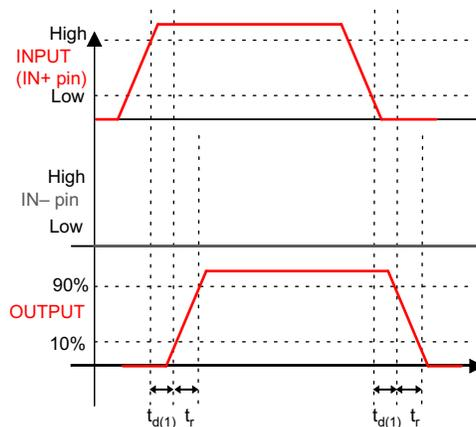
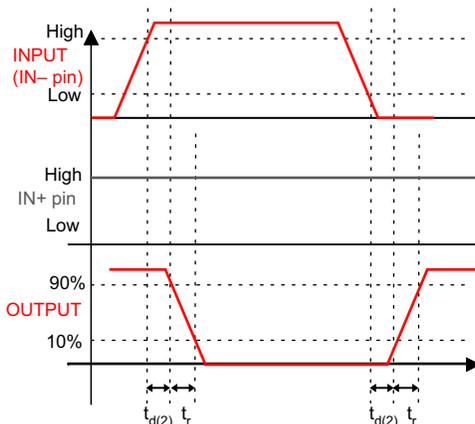

Figure 1. Non-Inverting Configuration (PWM Input to IN+ pin (IN- Pin Tied to GND), Output Represents OUTH and OUTL Pins Tied Together in the UCC27511A-Q1)
Figure 2. Inverting Configuration (PWM Input to IN- Pin (IN+ Pin Tied to V_{DD}), Output Represents OUTH and OUTL Pins Tied Together in the UCC27511A-Q1)
$V_{DD} = 12\text{ V}$, $T_A = T_J = -40^\circ\text{C}$ to 140°C , $1\text{-}\mu\text{F}$ capacitor from V_{DD} to GND. Currents are positive into, negative out of the specified terminal. See Figure 1, Figure 2, Figure 3, and Figure 4
(1) See timing diagrams in Figure 1, Figure 2, Figure 3, and Figure 4.